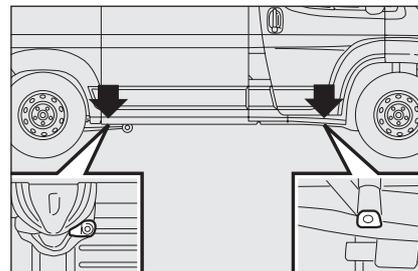

fig. 3
- set the jack near the lifting support close to the wheel to change in the points shown in **fig. 3**.